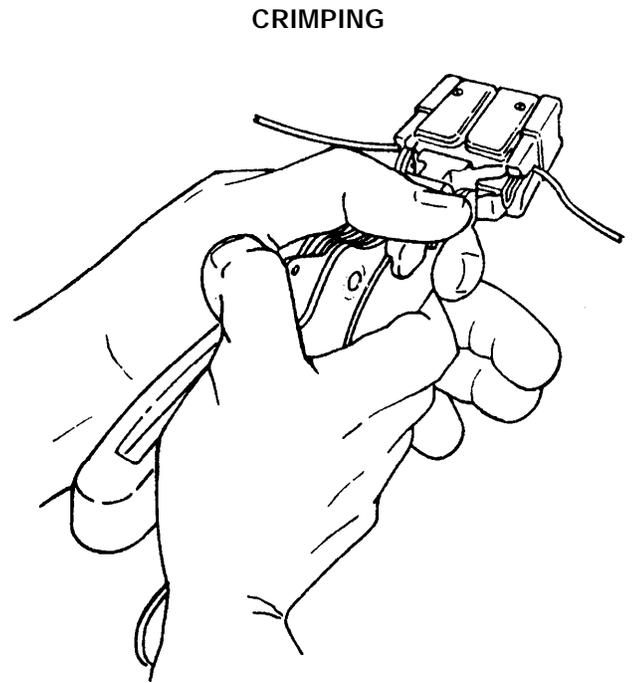

Figure 9 Method of Holding Tool Steady While Crimping.
4.02 A **suggested** method of steadying the tool during the crimping operation consists of grasping the front portion of the fixed handle with one hand while you use your other hand to close the quick-take-up lever (small lever at **top of tool**) **and** the movable handle. (See Figure 9) In completing the crimp, remember to close the handles fully until the ratchet releases and the handles open. Remove the crimped connection from the tool.